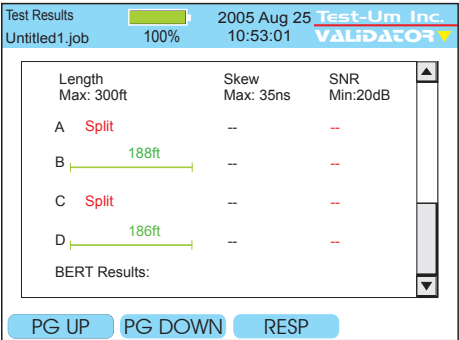

Figure 4.6 Test Results-Split
**Split Pair** - The cable has an error in the twisting of the wires together within the cable. Cables are generally made up of 8 wires twisted together in 4 pairs. A cable can be wired with correct continuity, but not with correct pairing. If the only error is a split pair error, the cable has correct continuity. If the Validator main unit is unable to link to its remote due to another error, such as a short, A Link Test Error Message displays “Unable to Measure SNR.” Press OK to view the wiremap results. (See Figure 4.6)